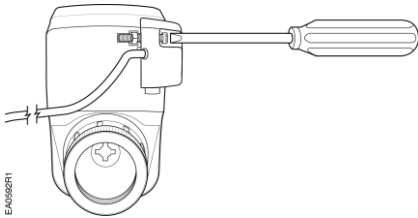

Figure 5.
- Tighten the screw to hold the connector in place. See Figure 5.